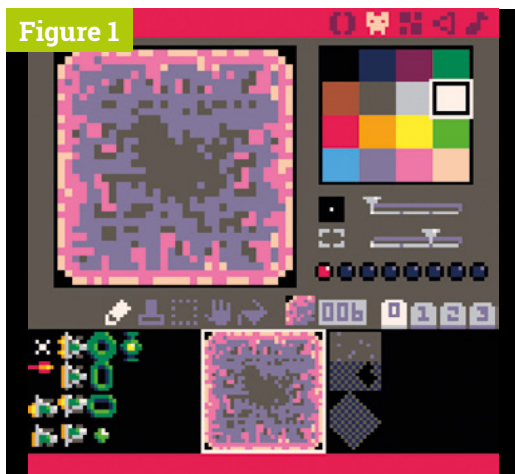

Figure 1
- ▶ **Figure 1** A big block of terrain tiles makes a good palette with which to paint your levels. Distinguish between background and foreground with sprite flags
We can't build a level out of enemy and player sprites – that would be sheer insanity! PICO-8's map editor is grid based, so we'll need to create some new terrain sprites that we put together as tiles. **Figure 1** shows a 3×3 square of sprites that can be tiled easily, with a couple of variations along the side. Switch to the sprite editor and create something similar. We've chosen suitably weird-looking purple asteroids for our terrain, and we've also created simple background sprites out of a chequer-board 'dither' pattern that we can use to imply depth.